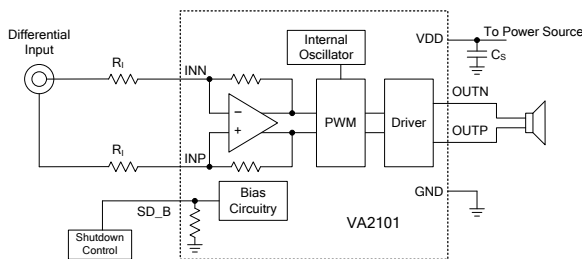

Figure 1. Differential Input Configuration
The gain of VA2101CSG9 is set by external resistors R_i shown in Figure 1. Set the gain of the amplifier according to the following equation:
The VA2101CSG9 can be used in many circuit input configurations. The simplest and best input configuration is the direct-coupled differential input show in Figure 1. The resistors R_i set the gain of audio amplifier. Refer Equation (1) to calculate.